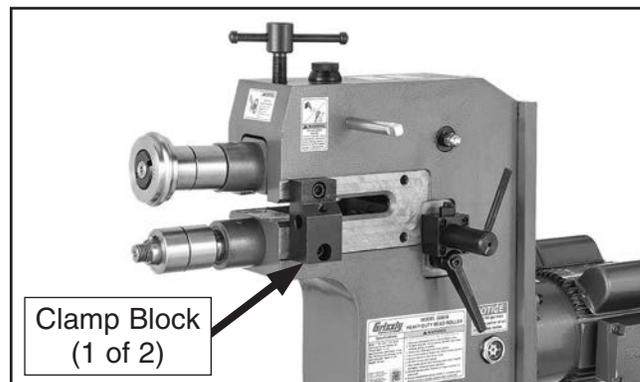

Figure 17. Fence base removed from clamp blocks.
5. Slide fence base out of clamp blocks (see **Figure 17**).